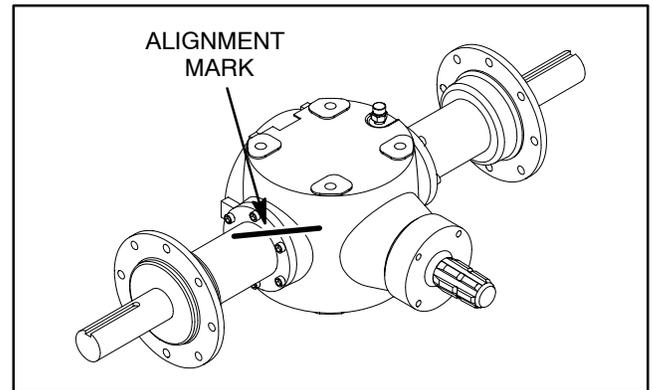

Figure 2
2. Use a marker to make a **diagonal** line across the housing and axle tubes for assembly purposes (Fig. 2).
3. Carefully pry cover plate (item 12) from rear of housing taking care to not damage housing opening. Check that sealing surface of cover is not damaged. Replace cover if necessary.
4. Remove socket head screws (item 19) that secure axle tubes (items 18 and 21) to housing. Slide axle tube assemblies from gearbox.
C. If backlash is excessive (greater than 0.012"), move shim(s) (item 3) from ball bearing side of gearbox to the tapered bearing side of gearbox. This shim movement will move bevel gear closer to the input shaft gear to reduce backlash.
D. If backlash is insufficient (less than 0.010"), move shim(s) (item 3) from tapered bearing side of gearbox to the ball bearing side. This shim movement will move bevel gear away from the input shaft gear to increase backlash.
7. Apply light coating of Permatex® No. 2 to sealing surface of cover plate (item 12). Use a soft face hammer to drive cover plate into housing.
8. Carefully slide axle tube assemblies onto gearbox shafts taking care to not damage seals. Align marker line on housing and axle tube (Fig. 2). Secure axle tubes to housing with socket head screws (item 19).
9. Apply a light coating of grease on lips and OD of input seal (item 1). Install seal into gearbox bore taking care to not damage seal during installation. Oil seal should be flush to slightly recessed into gearbox bore.